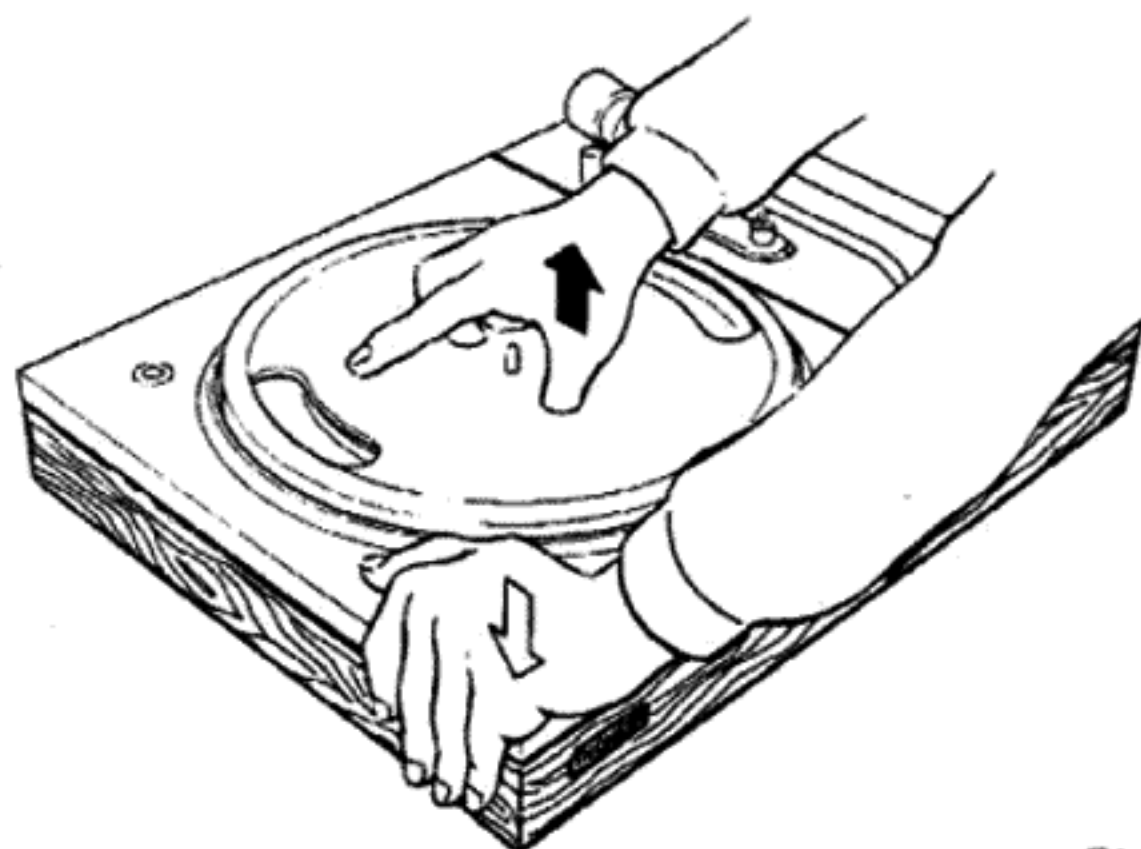

Fig. 19
4. Lift the turntable platter straight up by inserting fingers and thumb into the two openings (Fig. 19).